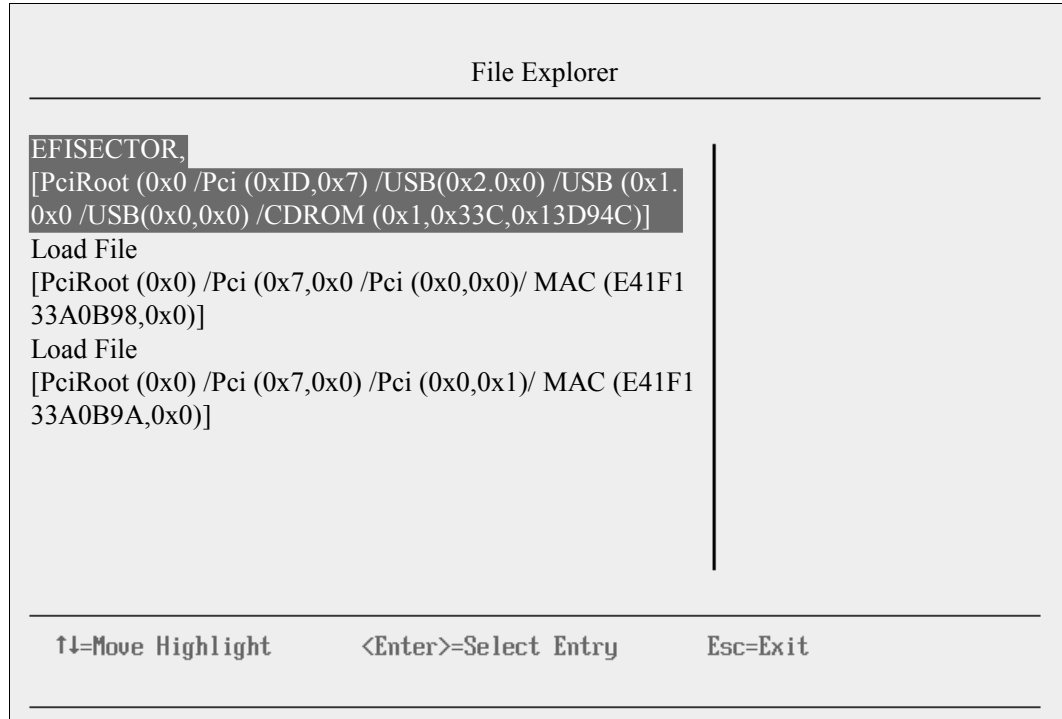

Figure 9-125 Selecting the CD
4. In the File Explorer panel (Figure 9-125), select **EFISECTOR** and the associated information and then press Enter.